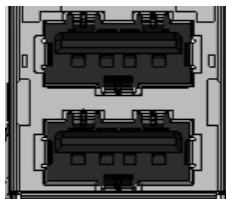

Figure 3-32: Ethernet and USB 2.0 Connector
- CN Location:** See **Figure 3-32**